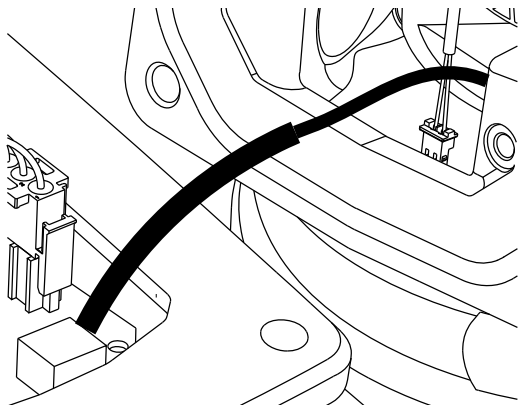

Fig. 20 Insulating sheath on the three leads
8. Pull a new 16 mm insulation sheath over the original insulating sheath of the motor leads. See fig. 20.